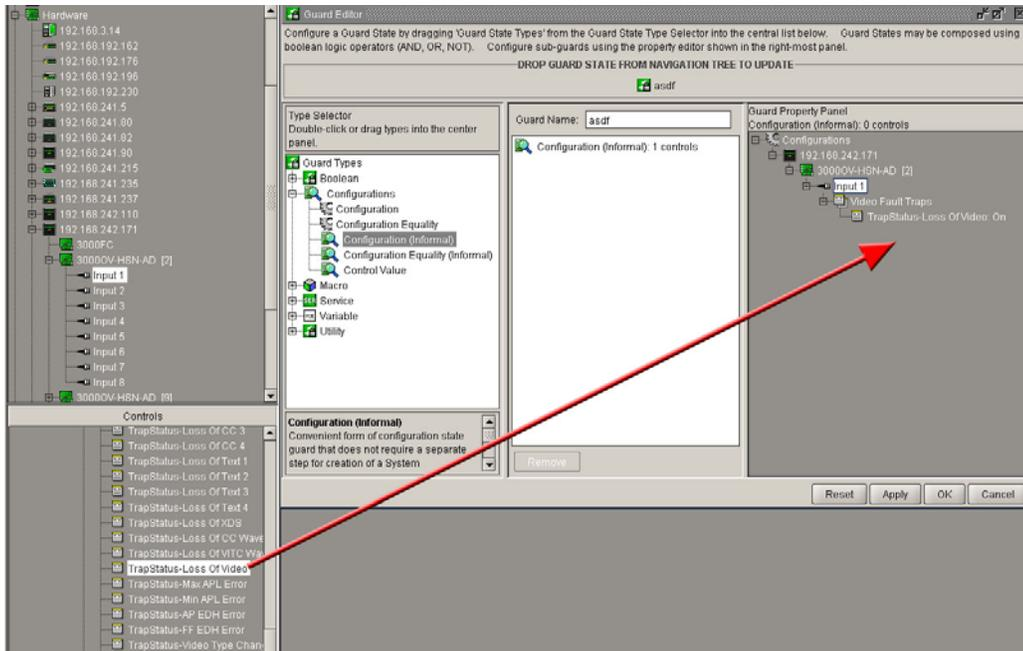

Figure 4-5: Dropping Controls from Control Selection to Guard Editor
3. Select the desired control from the *Control Selection* panel and drag and drop the control into the Guard Editor (right most column). This would be the property area for the selected item in the Guard component list. Figure 4-5 illustrates where the control parameter should be placed.